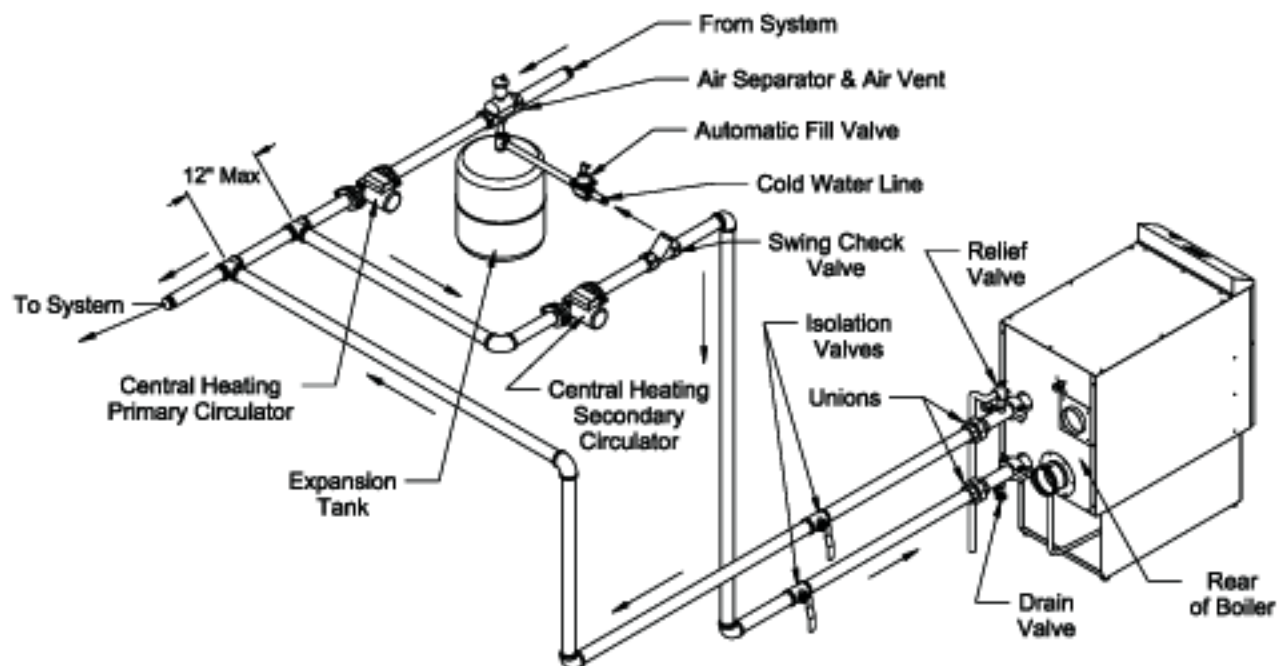
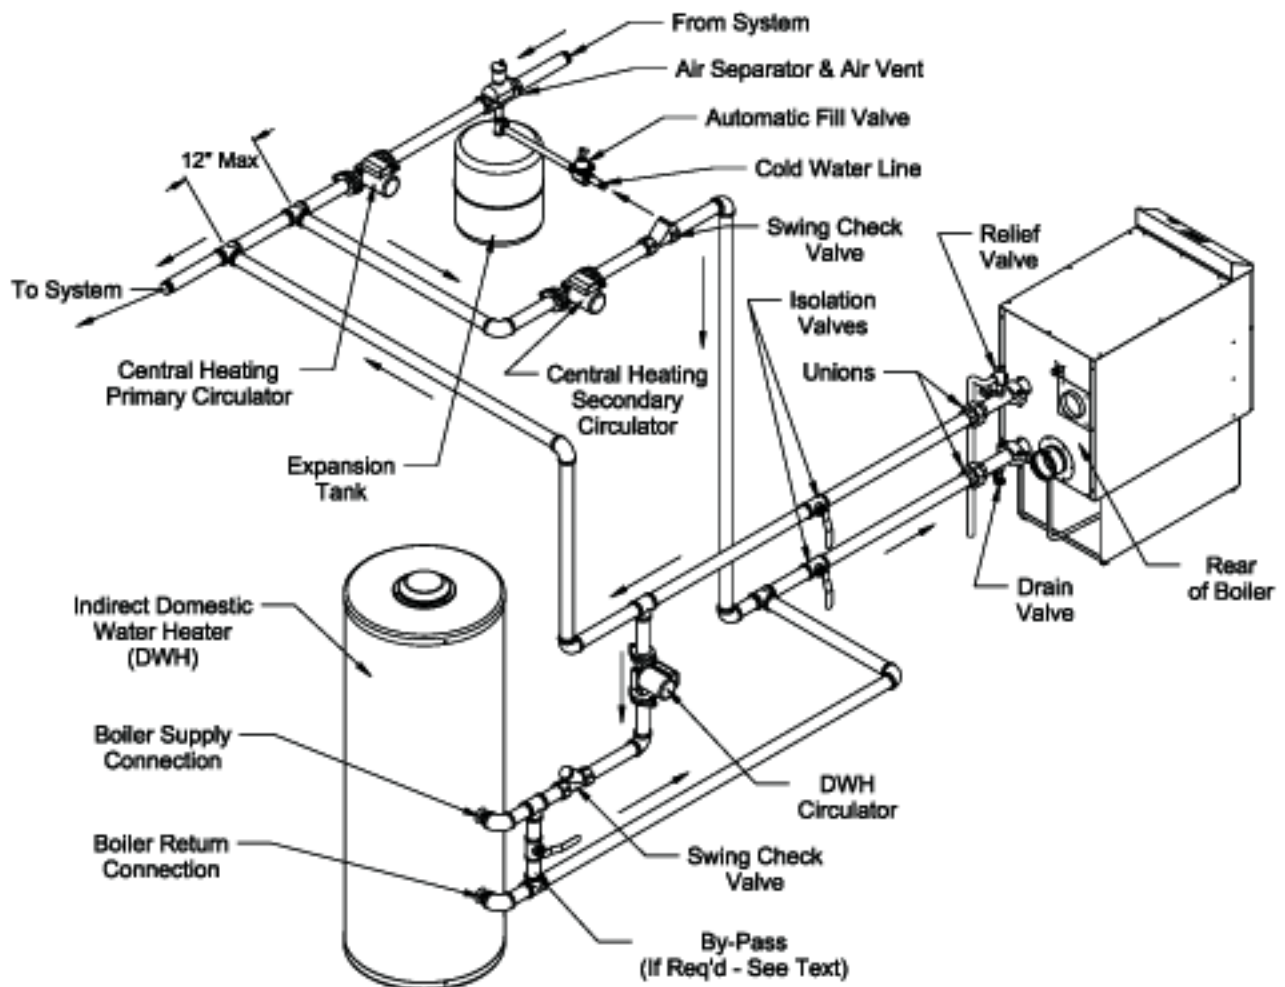

Figure 8.2: Piping Method #1 - Heat Only
Figure 8.3: Piping Method #1 - Heat + Indirect Water Heater
This method can be used in heat-only applications as shown in Figure 8.2 or with an indirect water heater as shown in Figure 8.3. This method relies on primary/secondary pumping to ensure that the required flow is always maintained through the boiler. In this system, the flow rate through the boiler is completely independent of the flow rate through the heating system. Use the following guidelines to ensure that the boiler will have the required flow shown in Table 8.1 regardless of the flow in the heating system.
Example – Assume that a BWC300 is to be installed in a heating system along with a Crown MS-40 indirect water heater as shown in Figure 8.3. A total of 15 ft of straight pipe will be installed between the boiler and the primary loop. A total of 25 ft of straight pipe will be installed between the boiler and the indirect water heater. Of this 25 ft of straight piping, 10ft is common to both the secondary and indirect water heater loop. The MS-40 requires a flow rate of 8 GPM and has a head loss of 3.0 ft. 20GPM is required through the secondary loop.
5) Indirect Water Heater By-pass - Some of the piping options shown in Table 8.7 require the use of a bypass around the indirect water heater. This is done when the required boiler water flow through the indirect water heater is far lower than the absolute minimum required flow through the boiler. The use of a bypass permits the use of a much smaller pump than would otherwise be required. Refer to Figure 8.3 for the location of this bypass. The bypass pipe size should be the same as the rest of the I.W.H. loop.